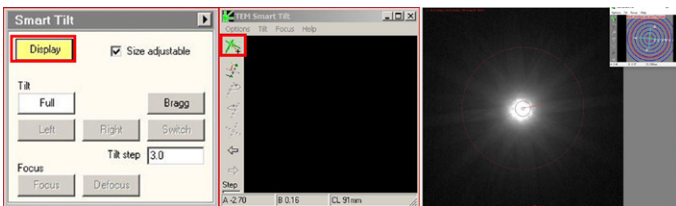

Figure 9: Smart Tilt functionality for zone-axis tilt. Right figure shows $\langle 110 \rangle$ Si zone axis found using Smart Tilt.
3. Click **Display** under Smart Tilt in the CrystalPack panel. The **Smart Tilt** floating window will appear (Figure 9). When closing the **Smart Tilt** floating window, DO NOT use the **cross**; instead click **Display** again.